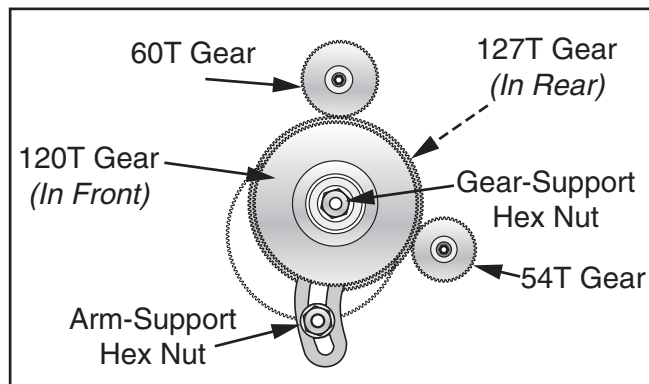

Figure 81. 60T & 54T gears installed.
10. Slide **127T** gear against lower **54T** gear (see **Figure 81**) until they mesh with 0.002" to 0.004" backlash, then tighten gear support hex nut.
12. Tighten arm support hex nut (see **Figure 81**).